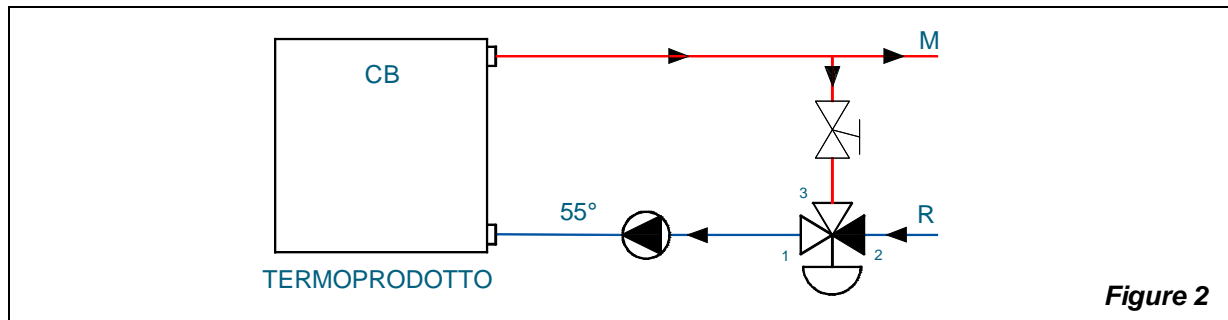

Figure 2
3.3. VANNE MELANGEUSE THERMOSTATIQUE AUTOMATIQUE (OPTIONNEL) – Figure 2